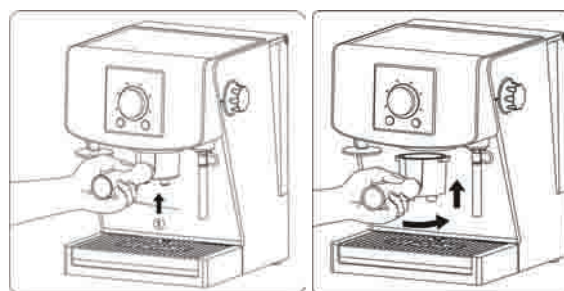

Fig. 3
- 6.1.3. Install the empty filter holder (6) in the brew head (4), turning it firmly right (Fig. 3).
- 8.10. Put the filter holder **(6)** into the brew head **(4)**, turning it firmly right **(Fig. 3)**.
- 9.10. Put the filter holder **(6)** into the brew head **(4)**, turning it firmly right (**Fig. 3**).